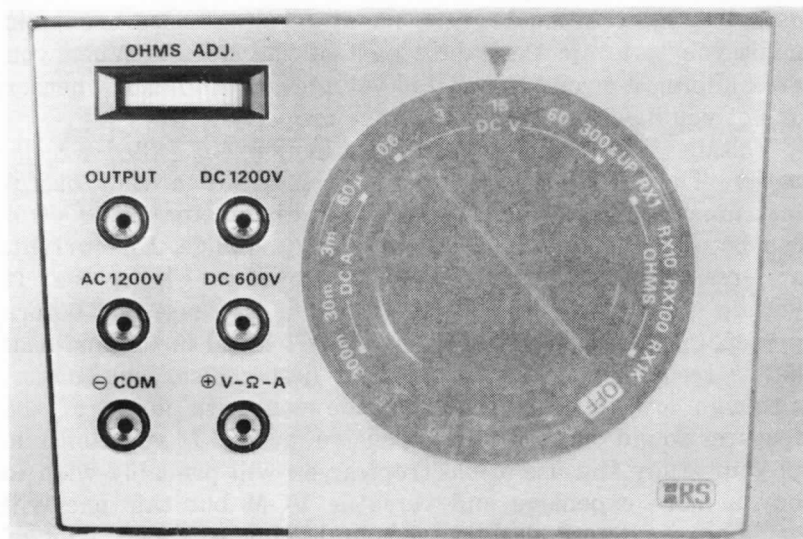

Figure 2-2. Test leads are inserted in the appropriate jacks.
1. At the lower left of the VOM are several holes called jacks (Figure 2-2). The test leads are inserted in these jacks. For most applications the black test lead is inserted in the jack marked COM or (-). The red test lead is inserted in the jack marked VΩA or (+). These colors are commonly